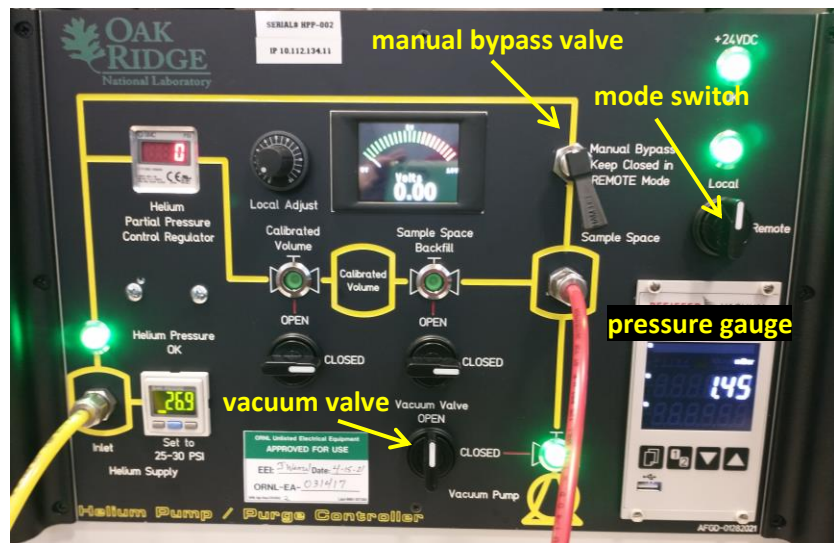

Figure 2. Helium Pump / Purge Controller
- a. On the Helium Pump / Purge Controller (Figure 2), change the mode switch from Remote to Local.